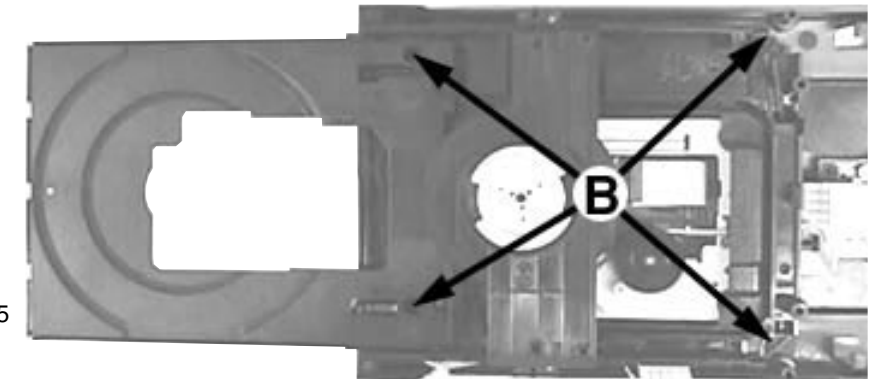

Figure 5
- 1) Slide out the Loader Tray fully and remove 4 screws B (see Figure 5) to detach the Universal Loader (pos 1103) from the Bracket Module Mounting (pos 156).